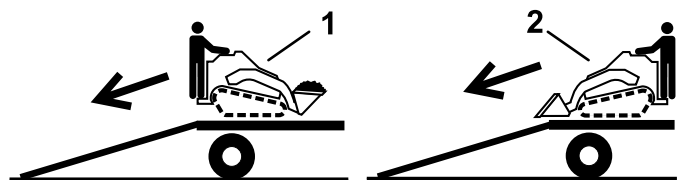

Figure 35
2. Unload the machine from the trailer with the heavy end up the ramp, carrying loads low (Figure 35).